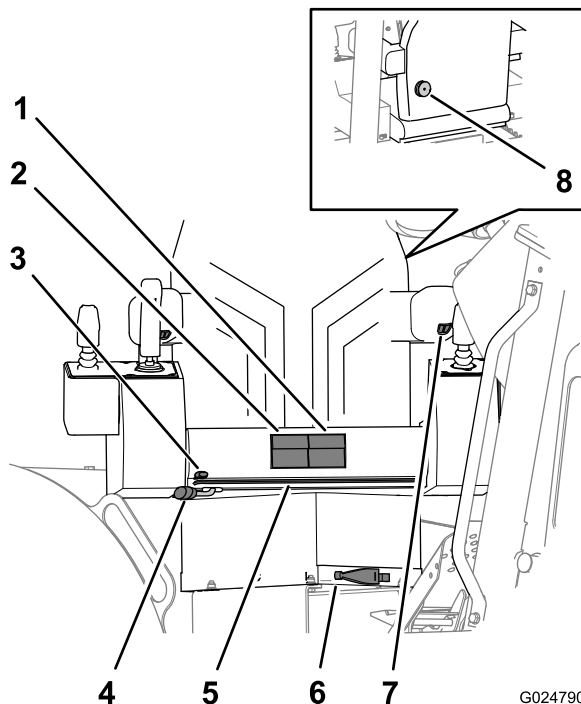

Figure 17
- **Seat-height buttons**—use them to adjust the seat pad up or down (Figure 17).
- **Seat-slide buttons**—use them to slide the seat pad forward or rearward (Figure 17).
- **Seat-frame-slide lever**—Use this lever to adjust the entire seat and frame forward or rearward (Figure 17).
- **Seat-base-slide lever**—Use this lever to move the seat base forward or rearward on the seat frame (Figure 17).
- **Seat-rotation lever**—Use this lever to unlock the seat so that you can rotate the seat to the desired position. The seat will rotate 360° and lock into position at 10° increments (Figure 17).
- **Seat-weight compensator**—Rotate this lever for the weight compensator to adjust the seat support tension for the weight of the operator (Figure 17).
Rotate the armrest-height control to raise or lower the armrest (Figure 17).
Rotate the seat-lumbar knob, found behind the seat, to adjust the back lumbar support for best comfort (Figure 17).